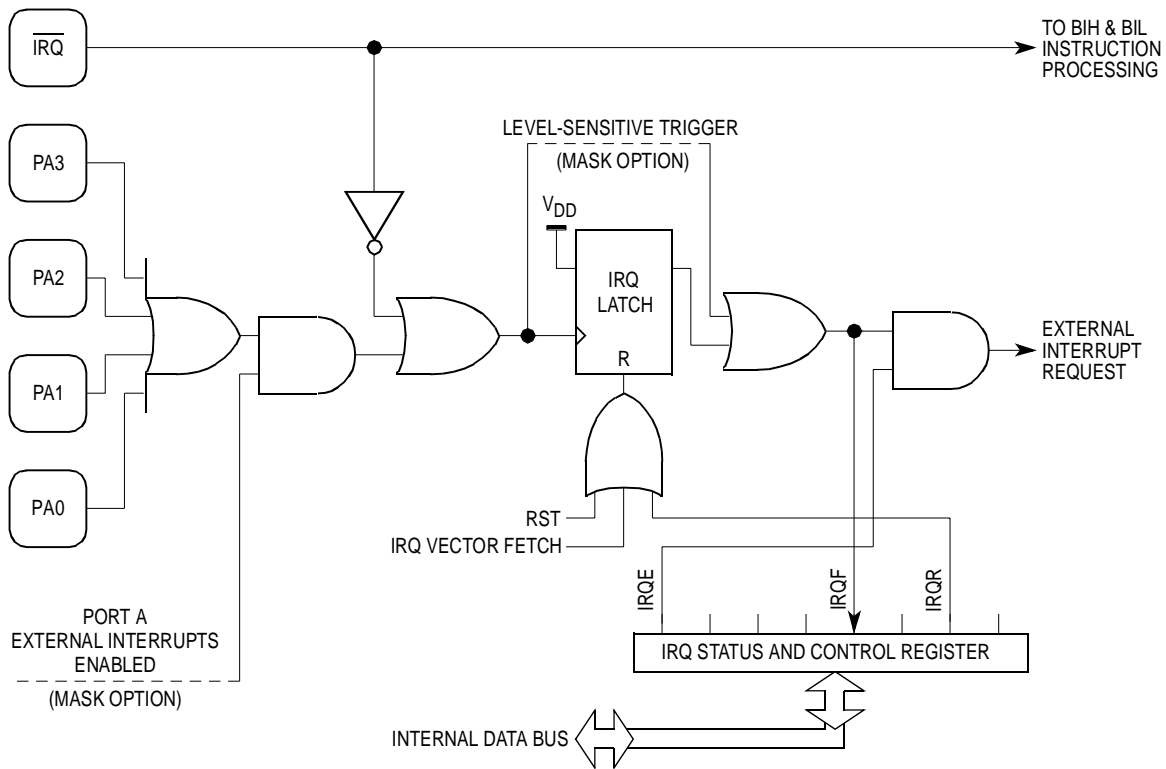

Figure 4-1. External Interrupt Logic
**Figure 4-1** shows the external interrupt logic.